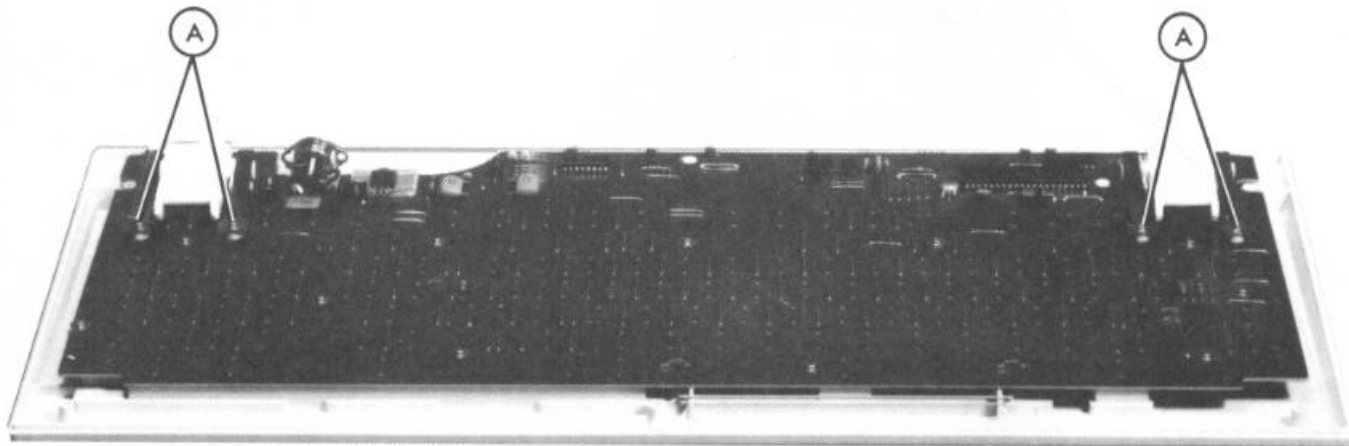

FIGURE 4-16. KEYBOARD CIRCUIT BOARD REMOVAL/REPLACEMENT
1. Install the keyboard case with screws (A) and install the keyboard cable.
4.4.3 Keyboard Circuit Board Removal (Figure 4-16)
4.4.4 Keyboard Circuit Board Replacement (Figure 4-16)